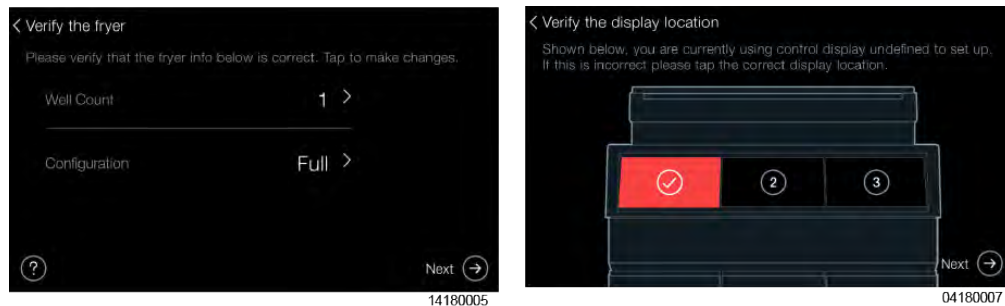

Figure 3-5
- 10) Tap the Configuration field, and select the display location that is being setup, refer to Figure 3-5, page 14.